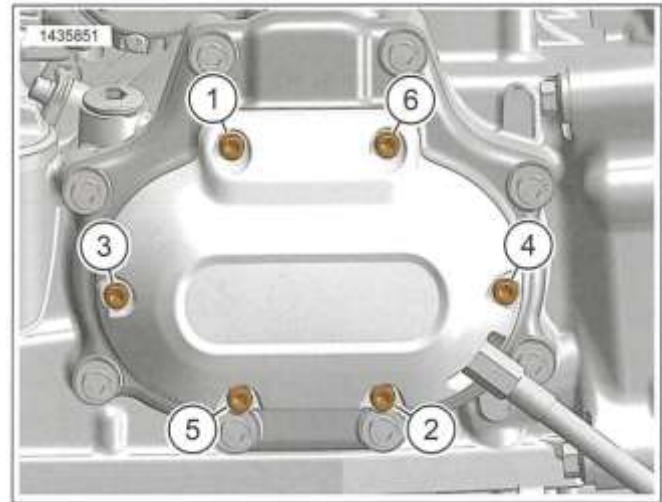

Figure 5-3. Clutch Release Cover Torque Sequence (Short Screws at Locations 1 and 6)
1. See Figure 5-3. Remove screws (1-6).
4. See Figure 5-3. Install screws. Tighten in sequence shown. Torque: 132-156 in-lbs (14.9-17.6 N-m) *Clutch release cover screws*